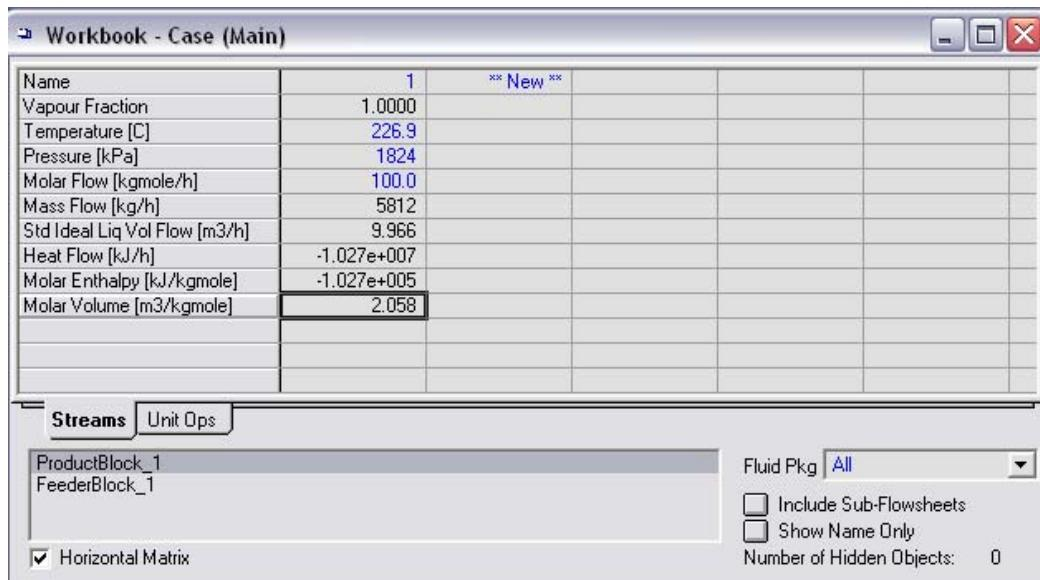

Figure 2-6
8. The Molar Volume value is presented in the Workbook as shown in Figure 2-6.